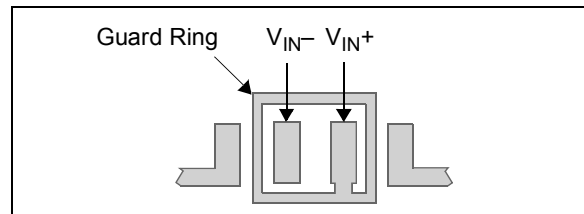

FIGURE 3-7: Example guard ring layout.
The easiest way to reduce surface leakage is to use a guard ring around sensitive pins (or traces). The guard ring is biased at the same voltage as the sensitive pin. An example of this type of layout is shown in Figure 3-7.
1. Inverting (Figure 3-7) and Transimpedance Gain Amplifiers (convert current to voltage, such as photo detectors).